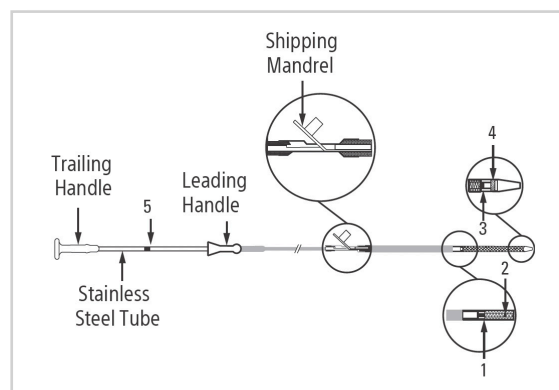

Figure 2. WallFlex Biliary RX Stent System
The delivery system is a coaxial tube design. The exterior tube is used to constrain the stent before deployment and reconstrain the stent, if stent repositioning is necessary, after partial deployment. The exterior tube has a clear section so that the constrained stent is visible. A yellow transition zone on the inner tube of the delivery system is visible between the stent and the blue outer sheath. There are four radiopaque (RO) markers to aid in the deployment of the stent while using fluoroscopy (Figure 2). There are two RO markers on the inner tube of the delivery system identifying the ends of the constrained stent (Figure 2, marker 1 and 3). Between these RO markers is an additional RO marker that indicates at what point reconstraint is no longer possible (Figure 2, marker 2). The fourth RO marker at the leading end of the exterior tube indicates how far the stent has been deployed (Figure 2, marker 4). There is one visual marker on the interior tube between the handles to aid in the deployment of the stent (Figure 2, marker 5). The visual marker indicates the point at which reconstraint is no longer possible. The interior tube has a single central lumen to accommodate a 0.035 in (0.89 mm) guidewire.